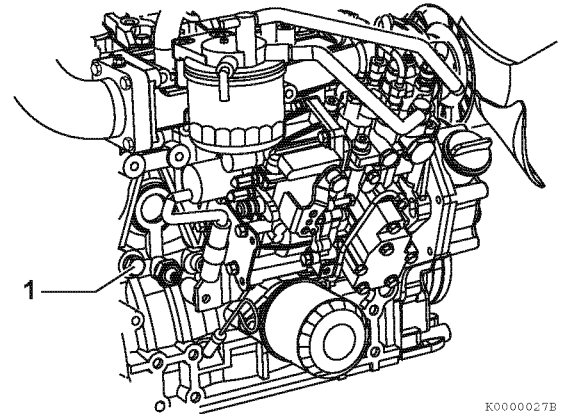

Figure 8-6
- On models not equipped with an oil cooler, remove the coolant drain plug (1, **Figure 8-6**) from the engine block.